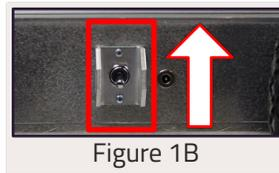

Figure 1B
4. Power on the robot and allow it time to connect to the controller. This may take up to 30 seconds. (Fig 1B).